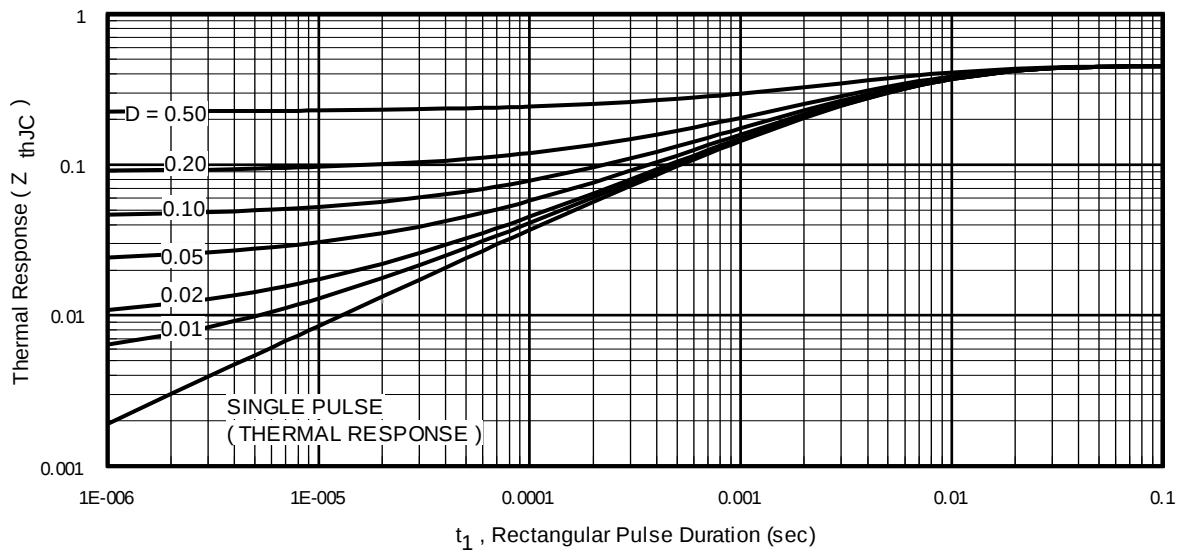

Fig 11. Maximum Effective Transient Thermal Impedance, Junction-to-Case
- ① Repetitive rating; pulse width limited by max. junction temperature. (See fig. 11).
- ② Limited by T_{Jmax} , starting $T_J = 25^\circ\text{C}$, $L = 0.24\text{mH}$, $R_G = 25\Omega$, $I_{AS} = 75A$, $V_{GS} = 10V$.
$Z_{thJC}(D, t_{av})$ = Transient thermal resistance, see figure 11)